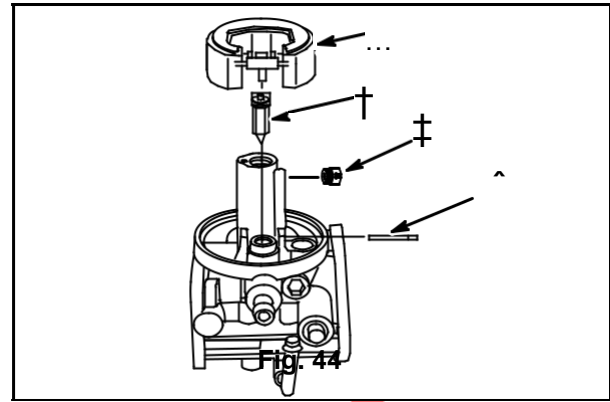

Fig. 44
Remove fixed main jet (7) using Screwdriver #19061, **Fig. 44**.